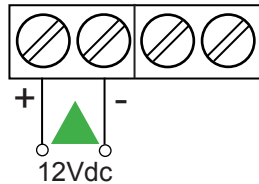

Fig.5
- At 12 Vdc using the terminals "+" and "-" (Fig.5)